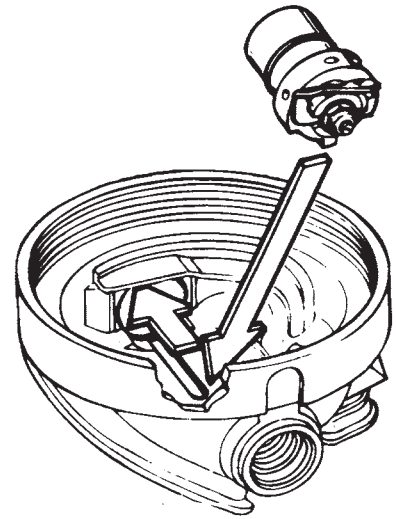

Figure 5
6. Align the tab on the insert with the channel just above the exhaust port in the case (item 24) and slide it into the case until the female threaded end is flush with the boss on the case. *Figure 5*.
7. Lightly lubricate the first two threads of the inlet fitting (item 27). While depressing the lever (item 15), thread the inlet fitting into the insert assembly you installed in the case. Tighten the inlet fitting to 50 inch-pounds. Release the lever.